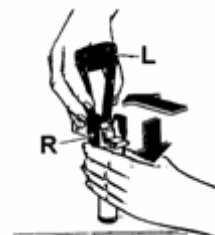

Fig. 25
11. Dismount the tap, holding the body R pressed downwards, then slide the lever L out of its seating (fig.25). Wash all the parts thoroughly with hot water and washing-up liquid, rinse them well, and proceed to remount them.